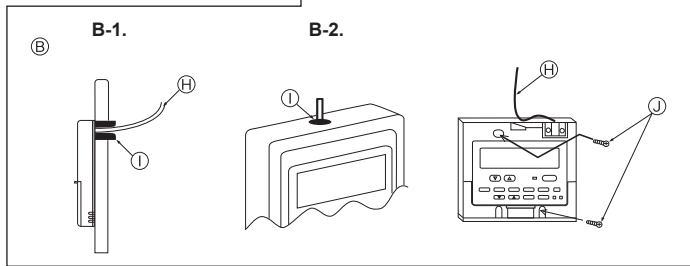

Fig. 5-6
(2) Seal the service entrance for the remote controller cord with putty to prevent possible invasion of dew drops, water, cockroaches or worms. (Fig. 5-6)